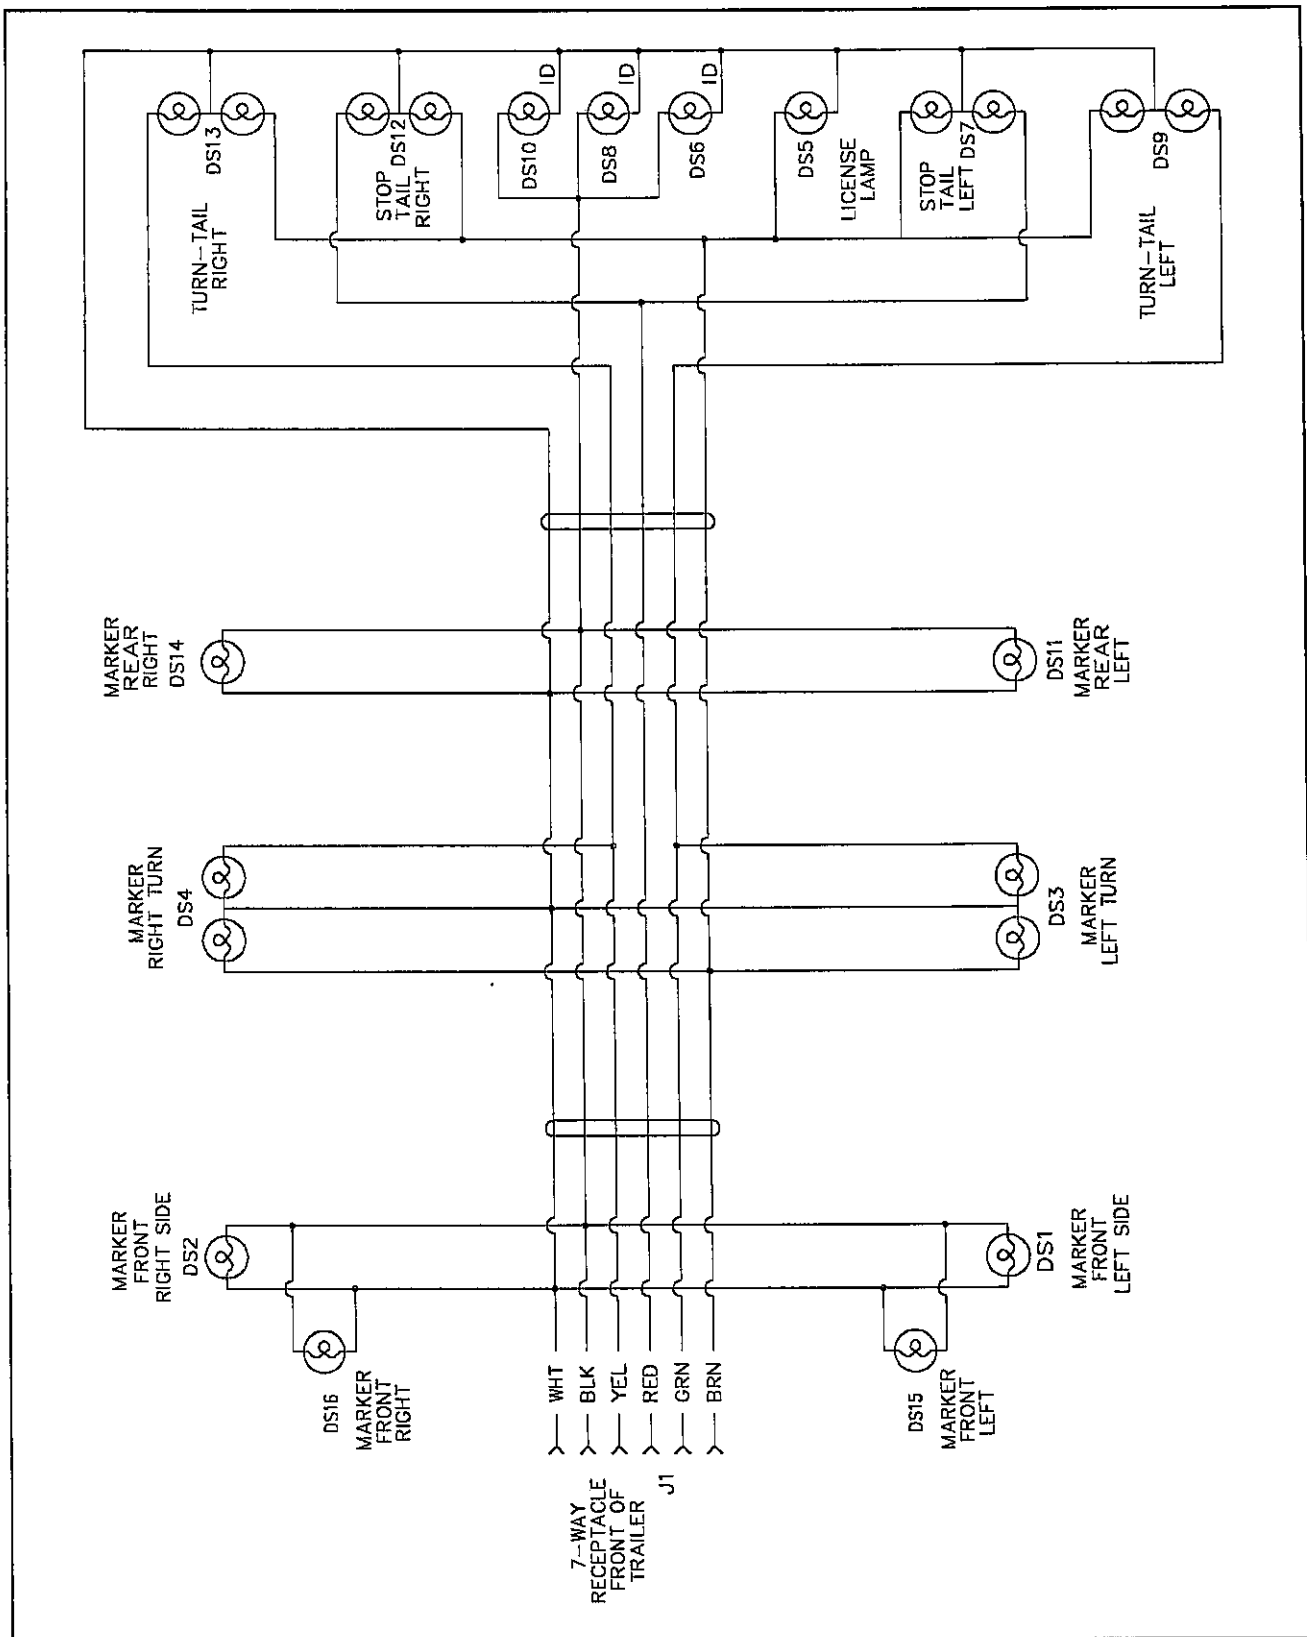

Figure 4-1 Electrical Schematic
**4-5.1** Maintenance of the electrical system consists of inspection and minor servicing. Any wire, connection or electrical component showing signs of corrosion, wear, breakage or unraveling must be repaired or replaced. See Figure 4-1 for a wiring diagram.